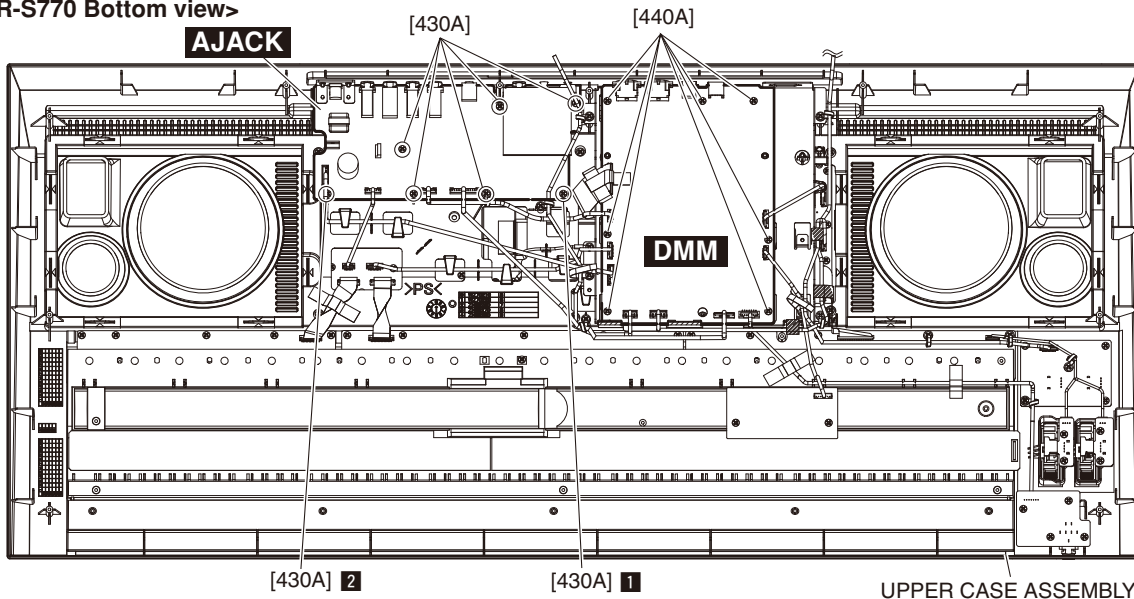

Fig. 3
3-2. **PSR-S770:** Remove the seven (7) screws marked [440A]. The DMM circuit board can then be removed. (Fig. 3)
PSR-S970: Remove the two (2) hexagonal lock screws marked [460] on the rear and the seven (7) screws marked [440A]. The DMH circuit board can then be removed. (Fig. 3)
- 4-2. Remove the two (2) screws marked [440B] on the rear and the seven (7) screws marked [430A]. The AJACK circuit board can then be removed. (Fig. 3)
* **When installing the AJACK circuit board, tighten the screws 1 and 2 shown in Fig. 3 in numerical order and then tighten the other screws.**